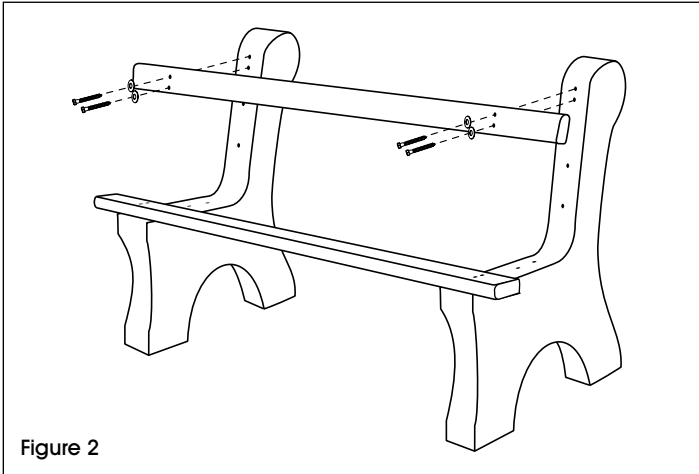

Figure 2
4. Align the second double holed bullnose bench slat on the top set of pre-drilled holes on the bench base backrest. Loosely attach double holed bullnose bench slat to the bench bases with the 3/2" lag screws and washers using the power drill and 7/16" socket bit (will tighten later in step 7). (See Figure 2)